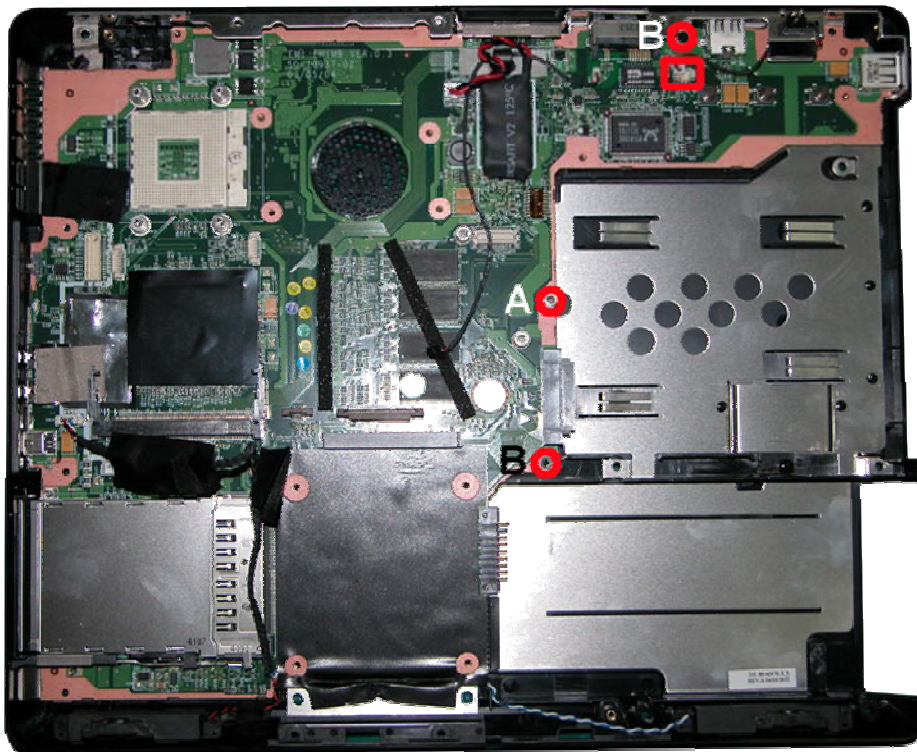

Fig. 33 Screws on Main Board
4. Unscrew the screws on Main Board encircled in Fig. 33 and disconnect Dip switch connector